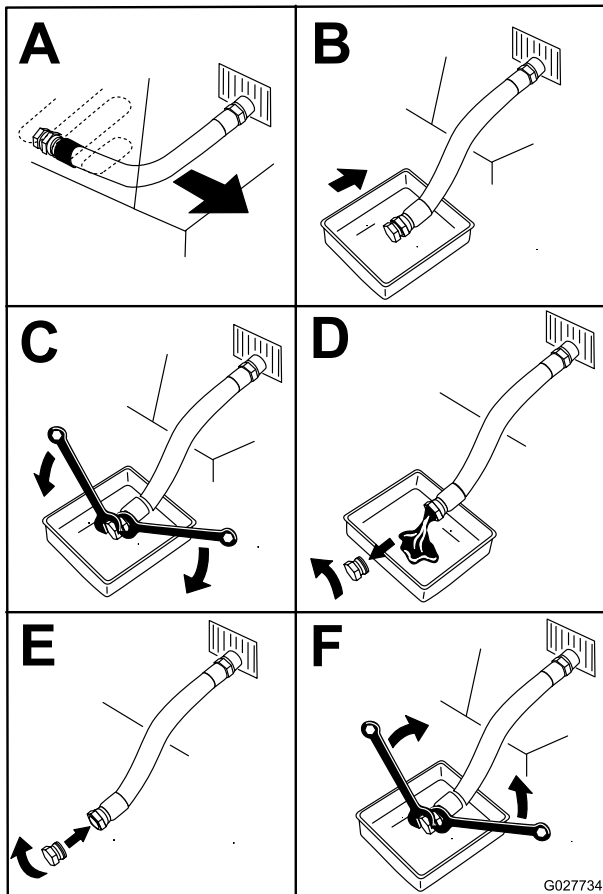

Figure 49
4. Shut off the engine, remove the key, and wait for all moving parts to stop before leaving the operating position (Figure 49).